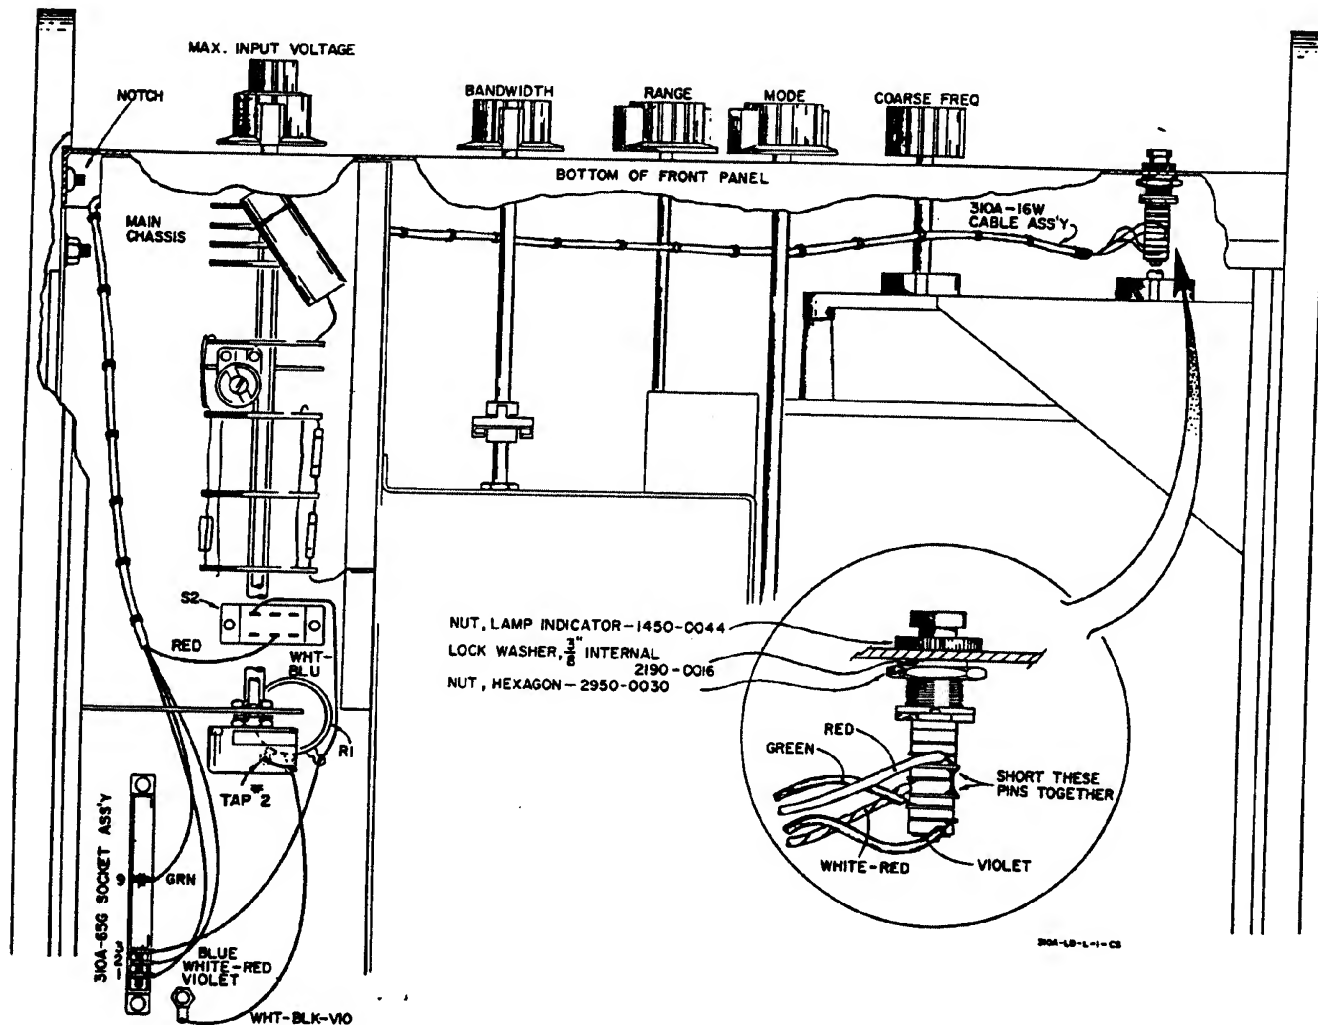

Figure 2. Model 310A, Pushbutton Switch Assembly, Wiring and Cable Layout
4. Solder the 24 inch long 4-wire cable assembly (310A-16W) to the pushbutton switch assembly. Refer to inset in Figure 2.
5. Mount the pushbutton switch to the panel as illustrated in Figure 2 inset.
6. Dress the cable assembly behind the front panel to the left side of the 310A, then through the notch in the main chassis next to the left side frame. Continue dressing cable to location of 310A-65G socket assembly. Refer to Figure 2.
2. Remove and discard the violet wire connected between tap #2 (see Figure 2) on R1 and Pin 1 of the 310A-65G socket.
Remove the white-black-violet wire (connecting the center tap and tap #2 of R1 with pin 1 of the 310A-65G socket) from pin 1 of the 310A-65G socket and connect it to the ground lug near pin 1. See Figure 2.
- d. Red to terminal on S2 indicated in Figure 2.